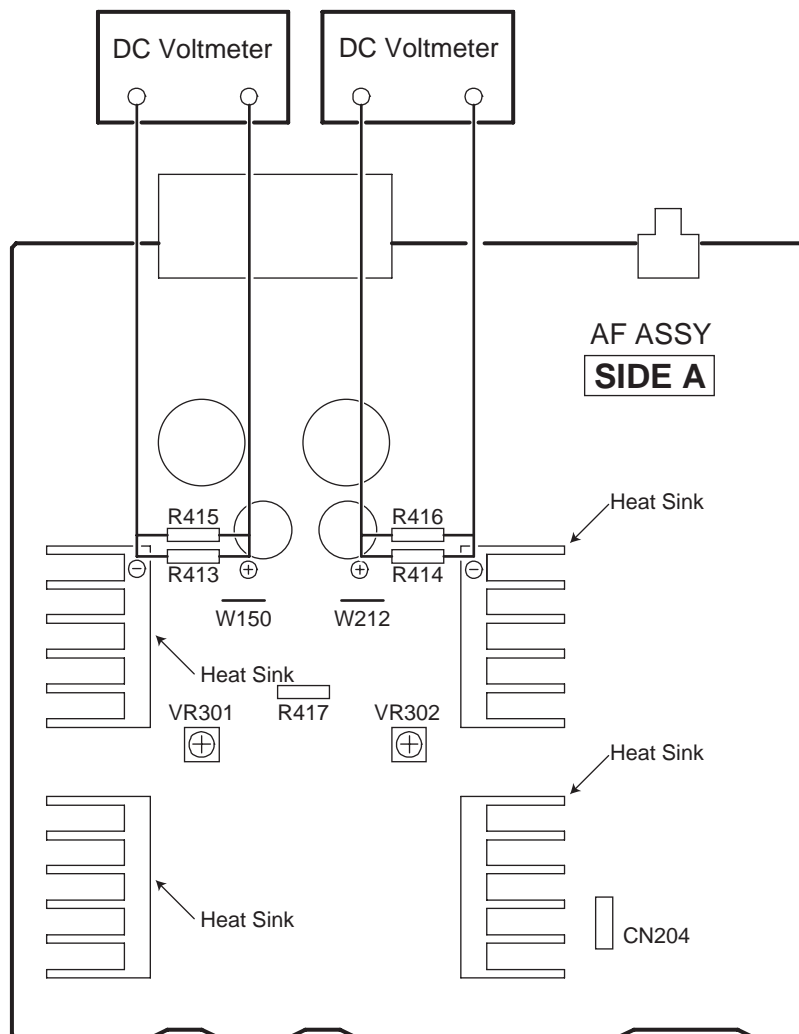

Fig. 6-1 Adjustment Method
1. Connect the measuring instrument as Fig.6-1. (R415 or R416)